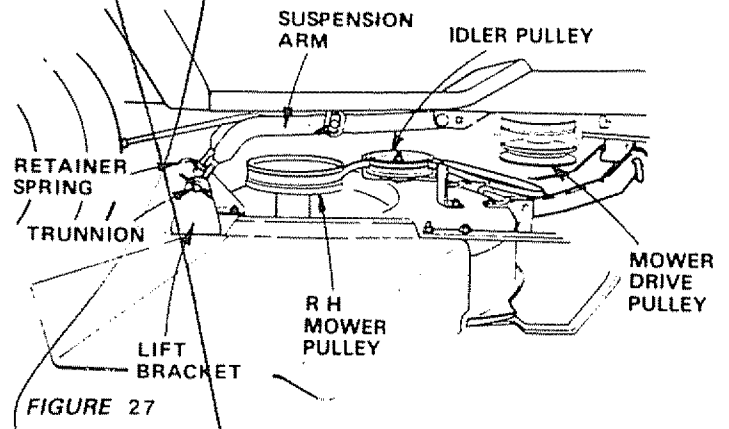

FIGURE 27
- e. Slide trunnions through lift brackets holes and secure with retainer spring (Fig 27)
- f. With belt routed around R.H mower pulley and idler pulley, roll belt over mower drive pulley (Fig 27) Drive schematic decal on mower housing